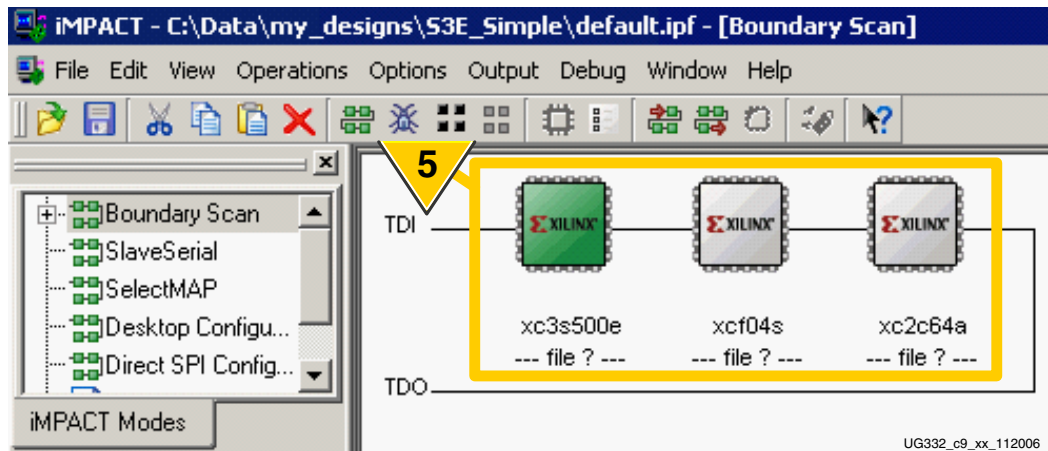

Figure 9-9: iMPACT Automatically Detects Devices on the JTAG Chain
5. As shown in Figure 9-9, the iMPACT software automatically detected the devices on the chain. In this example, a Xilinx XC3S500E Spartan-3E FPGA is first in the chain,